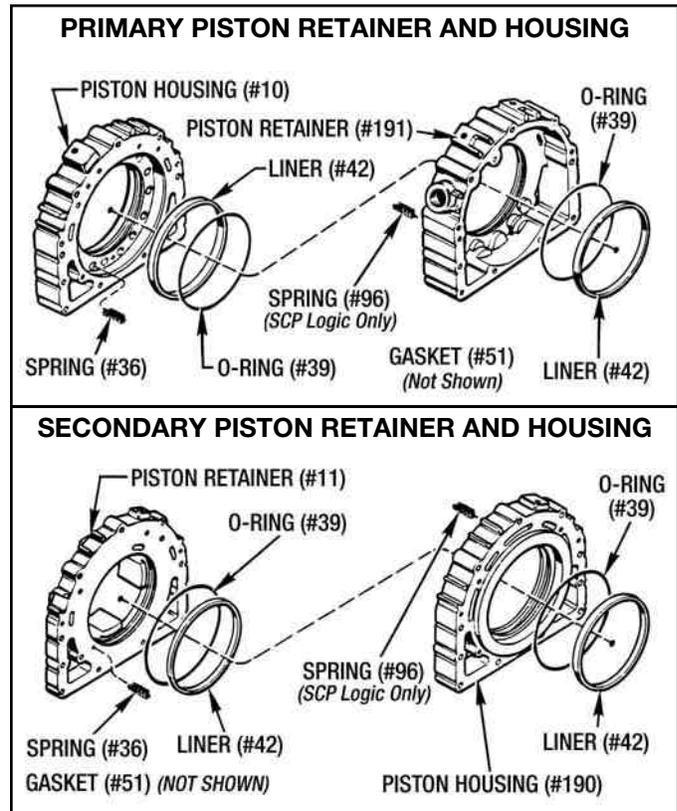

Figure 9.10 - Piston Retainers and Housings
1. Install O-Rings (#39) and Liners (#42) into Piston Retainers and Piston Housings. Lubricate O-Rings before installation. (See Figure 9.10)